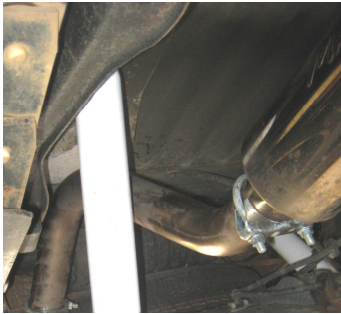

Figure 6
3. Loosely install the **Over Axle Pipe** connecting it to the **Muffler** outlet with a **2 ½” Clamp**. **Refer to Figure 6.**